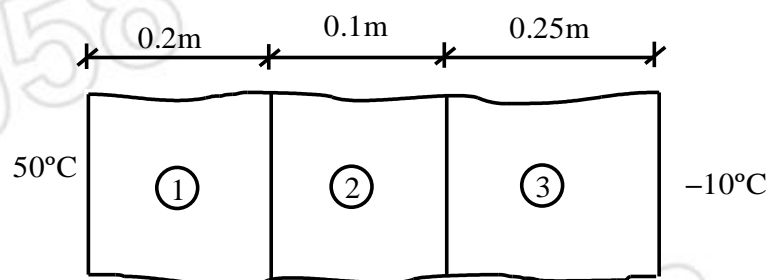

Fig. 7 (c)
- c) For a composite wall shown in the figure 7 (c) the thermal conductivity of wall (1) is $0.012 \text{ w/cm}^\circ\text{C}$, wall (2) is $0.0014 \text{ w/cm}^\circ\text{C}$ and wall (3) is $0.0086 \text{ w/cm}^\circ\text{C}$. The left most wall is kept at 50°C and the right most wall is kept at -10°C . Determine the temperature distribution within the wall. Assume cross-sectional area of the wall to be 1 cm^2 . **13**